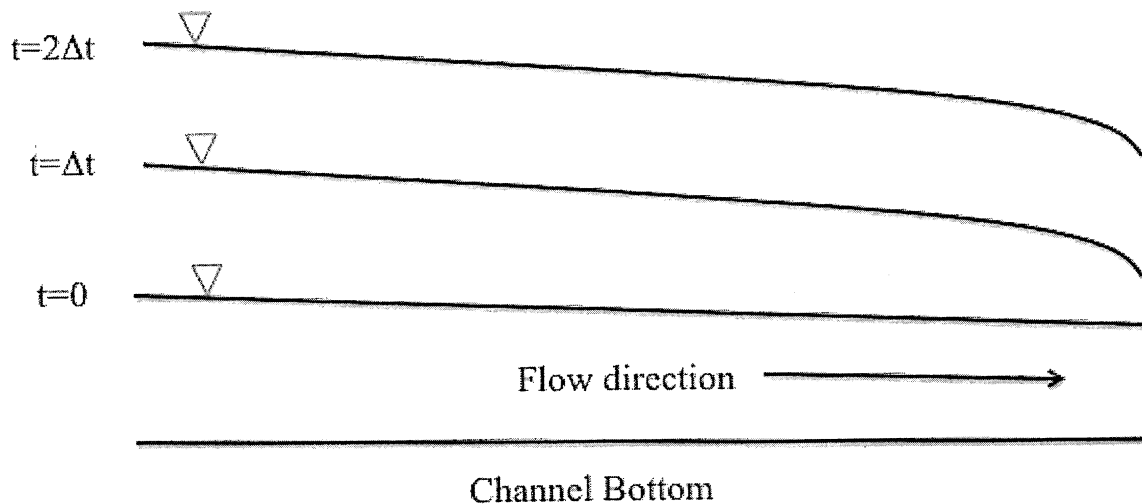

Figure 3. Water surface profile at times $t = 0$, $t = \Delta t$, and $t = 2\Delta t$ in rectangular channel after sudden closure of sluice gate.
5. A sluice gate is closed suddenly downstream of a rectangular channel. During a brief period of time after the closure of the gate, the upstream water surface profile at times $t = 0$, $t = \Delta t$, and $t = 2\Delta t$ (indicated in Figure 3) are observed. Based on the appearance of the water surface profiles in Figure 3, discuss whether the kinematic wave model or the dynamic wave model would be more appropriate to describe the hydraulic conditions in the channel. Structure your answer in terms of the mathematical terms in one of these models as well as key concepts such as steady flow, unsteady flow, uniform flow, non-uniform flow, momentum, inertia, compressibility and any other relevant concepts.